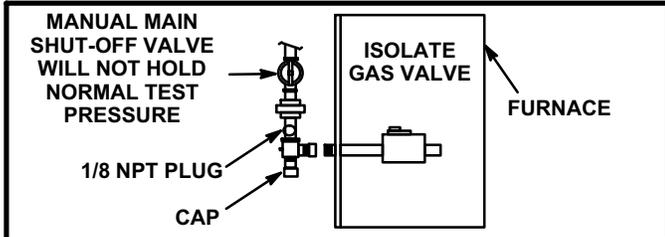

FIGURE 18
- 5 - A 1/8" N.P.T. plugged tap or pressure post is located on the gas valve to facilitate test gauge connection. See figure 18.
When testing pressure of gas lines, gas valve must be disconnected and isolated. See figure 18. Gas valves can be damaged if subjected to pressures greater than 1/2 psig (3.48 kPa, 14 inches w.c.).